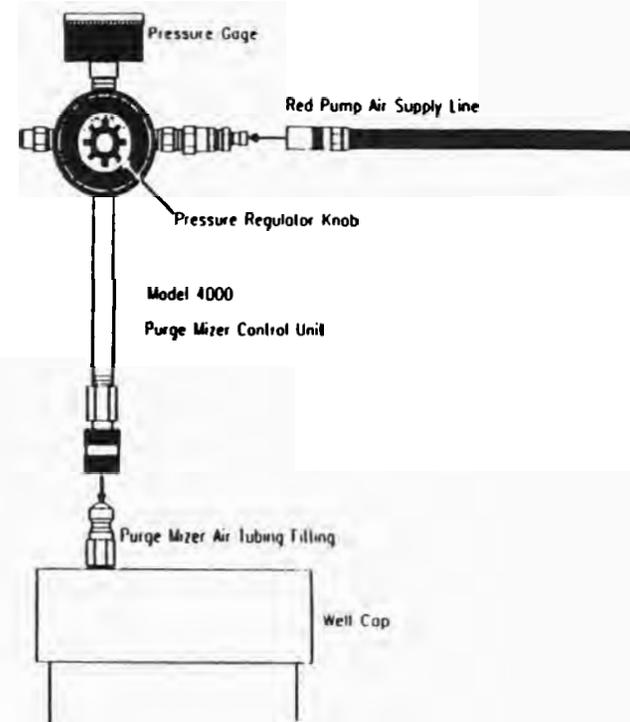

Figure 3-3: Coupling the Purge Mizer Control Unit
1. Couple the Purge Mizer control unit to the Purge Mizer air tubing fitting on the well cap (see Figure 3-3).